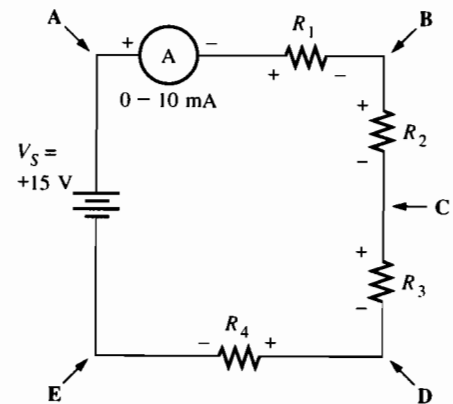

Figure 7-4
3. Complete the circuit shown in Figure 7-4. Be certain the ammeter is connected in *series*, otherwise damage to the meter may result. Before applying power, have your instructor check your circuit. Compute the current in the circuit by substituting the source voltage and the total resistance into Ohm's law. That is:
7. Using the source voltage (+15 V) and the *measured voltage drops* listed in Table 7-2, prove that the algebraic sum of the voltages is zero. Do this by applying the rules listed in the Summary of Theory. The polarities of voltages are shown in Figure 7-4.